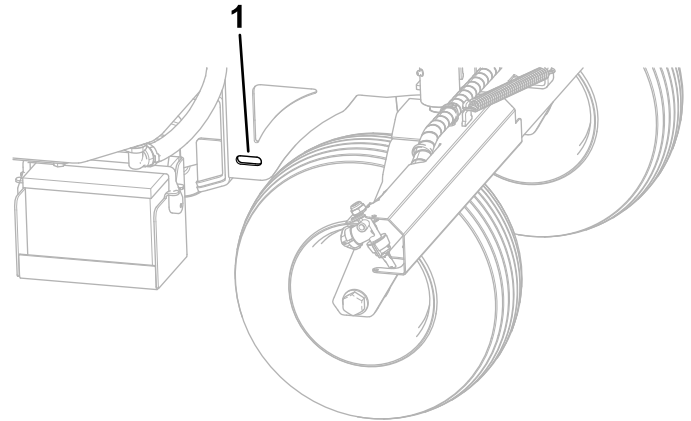

Figure 58
4. Use the tie-down points on the machine to securely bind the machine to the trailer or truck with straps, chains, cable, or ropes (Figure 58 and Figure 59 or Figure 60). Refer to local regulations for trailer and tie-down requirements.